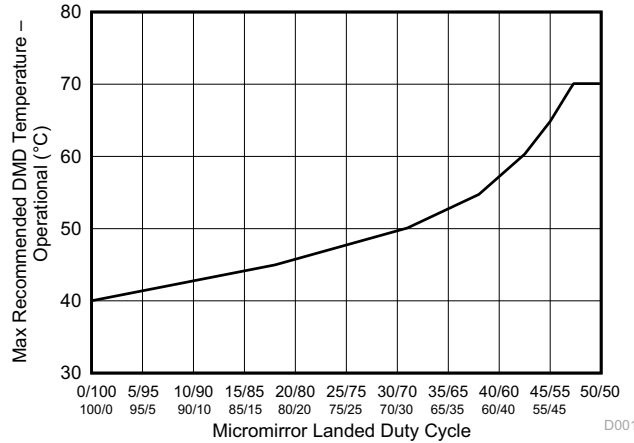

图 7-1. Maximum Recommended DMD Temperature – Derating Curve
- (6) Per 图 7-1, the maximum operational case temperature at test points TP1 and TP2 as shown in 图 8-3 or 图 8-4 should be derated based on the micromirror landed duty cycle that the DMD experiences in the end application. Refer to Micromirror Landed-on/Landed-off Duty Cycle for a definition of landed duty cycle.
- (7) Long-term is defined as the average over the usable life.